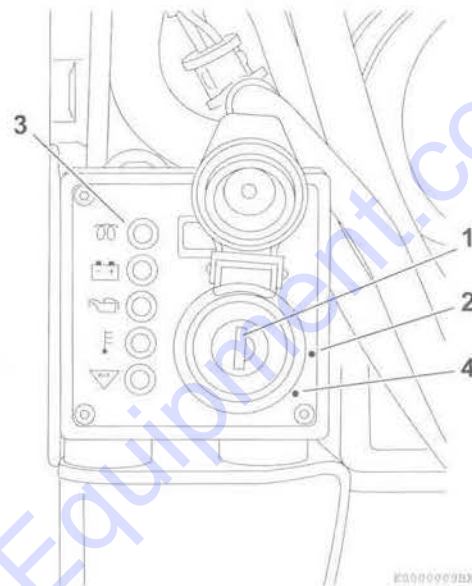
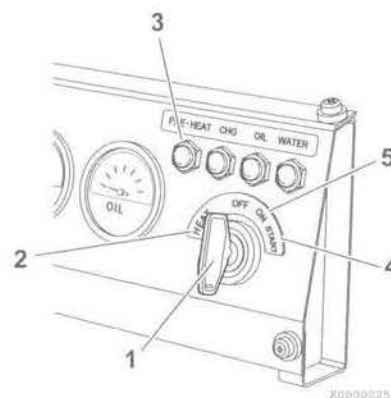

Figure 2
Figure 3
7. Insert the key into the key switch (1, **Figure 2**) or (1, **Figure 3**).
8. Turn the key to the ON position (2, **Figure 2**) or the HEAT position (2, **Figure 3**). The pre-heat indicator (3, **Figure 2**) flashes for several seconds and then goes out. After the pre-heat indicator goes out you can start the engine.
9. Turn the key clockwise to the START position (4, **Figure 2**) or (4, **Figure 3**). Release the key as soon as the engine starts. It will return to the ON position (2, **Figure 2**) or (5, **Figure 3**).